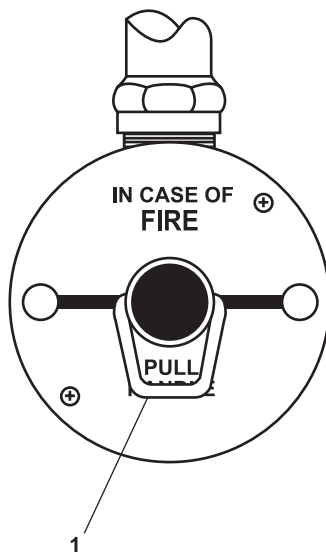

Figure 6. Manual Pull Box for the Galley Fire Suppression System
The galley fire suppression system operates automatically when the fusible links detect fire at the range, griddle and/or the fryer. To manually actuate this system, PULL the manual pull box (figure 6, item 1) located just inside the galley's forward door.